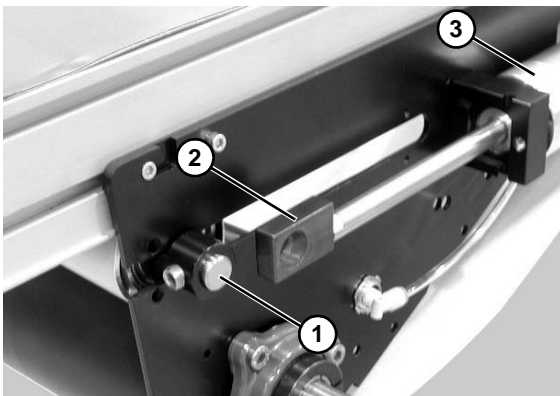

Figure 37
8. Push shaft (**Figure 37, item 1**) through block (**Figure 37, item 2**), and slide block towards air cylinder (**Figure 37, item 3**).